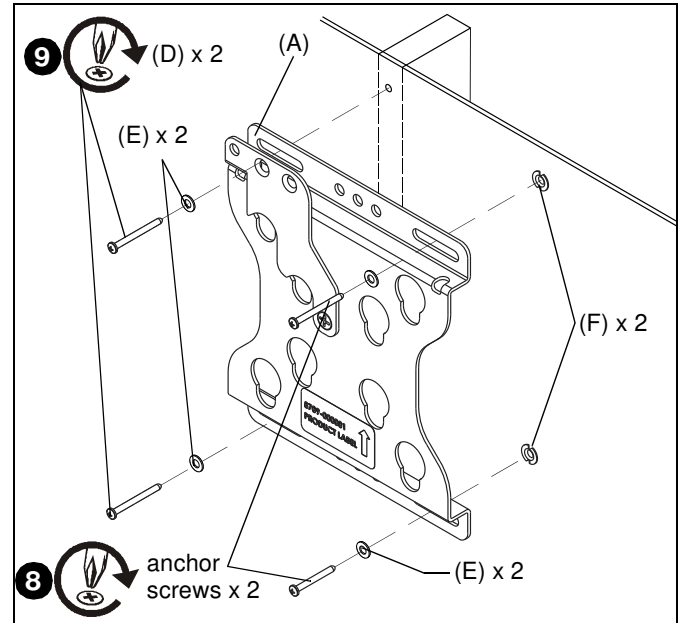

Figure 5
8. Insert anchor screws through two #10 washers (E), FSR1U/FSR100 assembly (A) and install into collapsed anchors (F). (See Figure 5)
9. Install two #10 x 2 1/2" Phillips tapping screws (D) through two #10 washers (E), FSR1U/FSR100 assembly (A) and into wood stud. (See Figure 5)